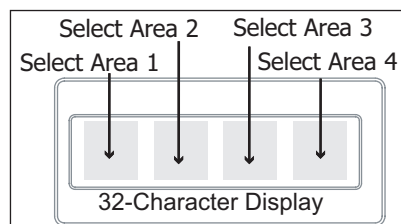

Figure 8: Clear Touch Select Areas
**On Clear Touch or Graphic Touchscreen Keypads**, when instructed to press the first Select key, touch Select Area 1; the second Select key touch Select Area 2; third Select key touch Select Area 3; and the fourth Select key touch Select Area 4. See Figure 8.